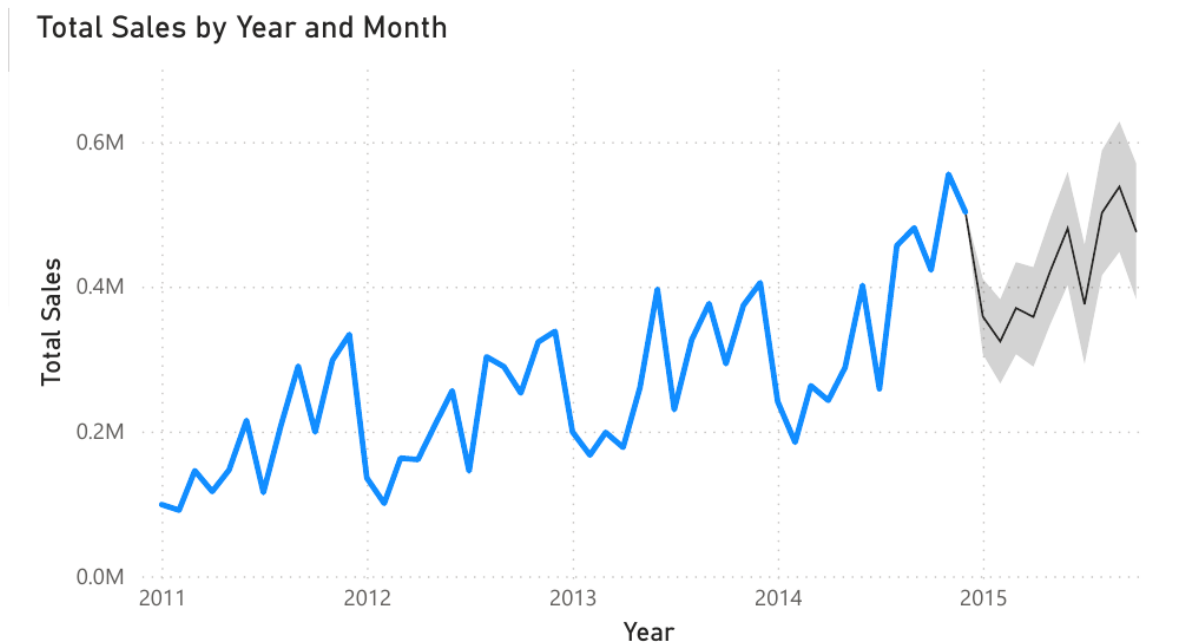

Figure 7: Monthly Sales with a 10-month forecast (line chart + Analytics-pane Forecast).
- **Plan for Q4 seasonality.** Figure 7 forecasts continued, seasonal growth; stock and staff for the Q4 peak.